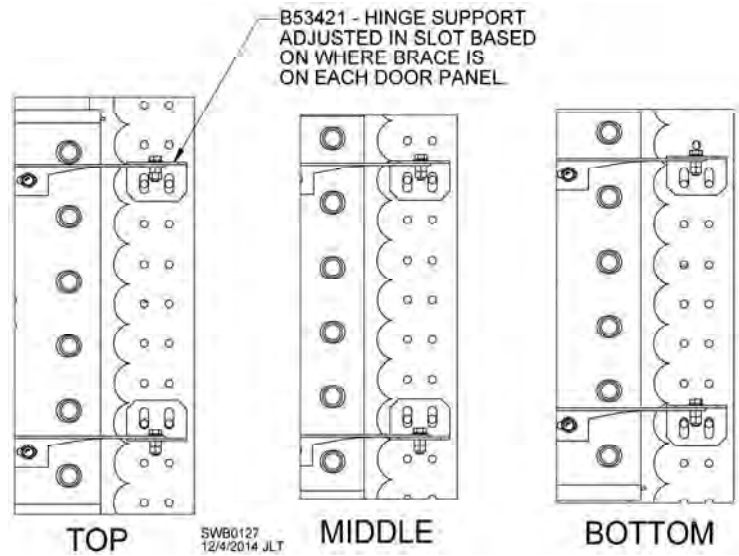

Fig. 4
8. Slide hinge supports up until they touch hinge braces (B53341). Fig. 4 shows how some bolts are below and others are above hinge braces.